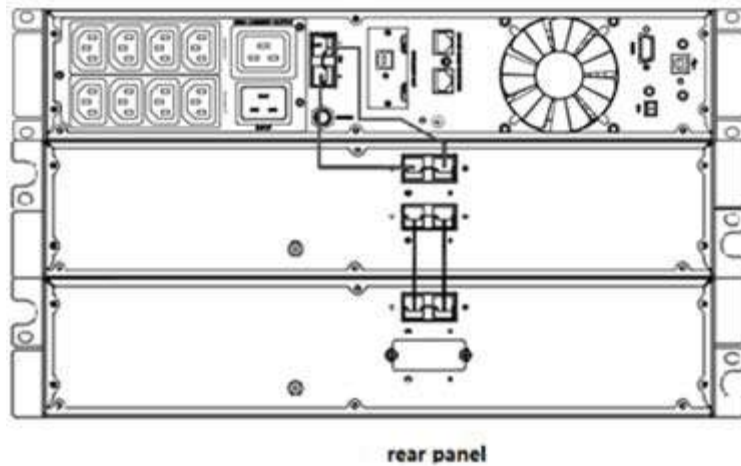

Figure10 Typical EBP Installation
- c) For the bottom (or only) EBP, remove the EBP cable knockout on the top of the EBP front cover. See Figure 10 for the location of the top EBP cable knockout.
- d) If you are installing more than one EBP, for each additional EBP remove the EBP cable knockout on the top and bottom of the EBP front cover. See Figure 10 for the location of the EBP cable knockouts.
- e) Plug the EBP cable(s) into the battery connector(s) as shown in Figure 10. Up to four EBPs may be connected to the UPS. Connect black to black. Press the connector tightly together to ensure a proper connection.